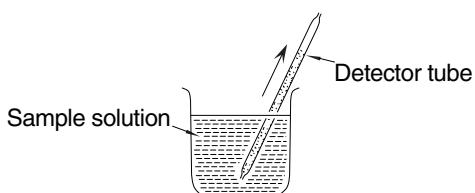

FIG. 2.25 IMMERSION METHOD
- (2) Immersion method (see FIG. 2.25) : One end of the detector tube is immersed in the sample solution to draw it up by capillarity action.